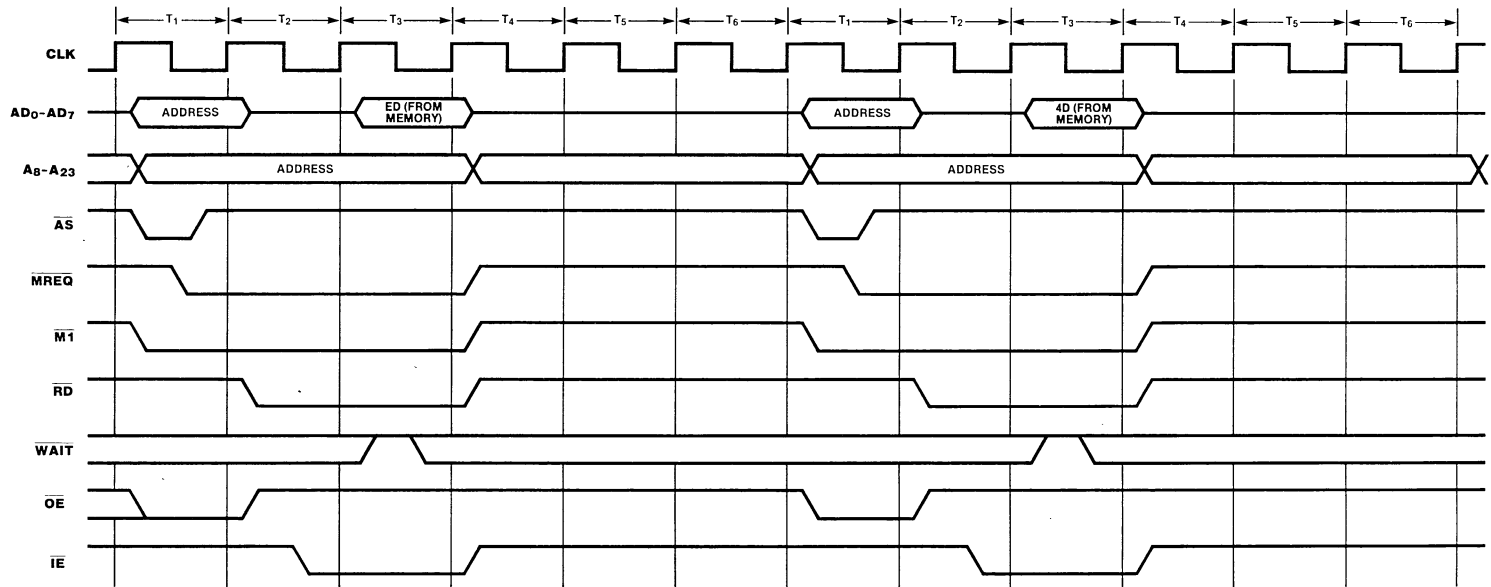

Figure 40. RETI Read Timing
**RETI Transactions.** These transactions (Figure 40) are similar to two memory read transactions except that  $\overline{M1}$  is asserted throughout each read transaction, falling early in the first bus cycle, and that  $\overline{MREQ}$ ,  $\overline{M1}$ ,  $\overline{RD}$  and  $\overline{IE}$  are deasserted on the rising edge of the clock following the third cycle. Each of the read transactions is followed by a minimum of three bus cycles of inactivity. These transactions are invoked when an RETI instruction is encountered in the instruction stream; they are used during the re-fetching of the instruction from memory so that interrupt logic within Z80 peripherals that monitor the bus for this instruction will function correctly.